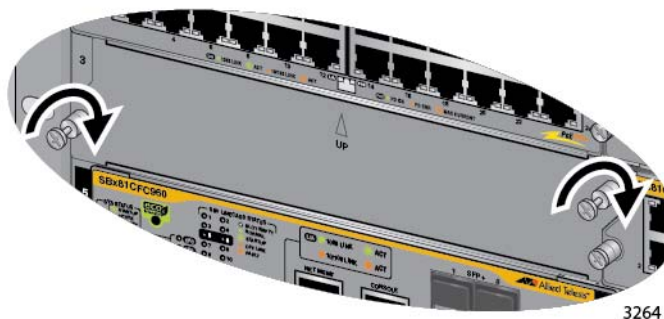

Figure 95. Tightening the Thumbscrews on a Blank Slot Cover
2. Finger tighten the two thumbscrews to attach the blank panel to the chassis, as shown in Figure 95.